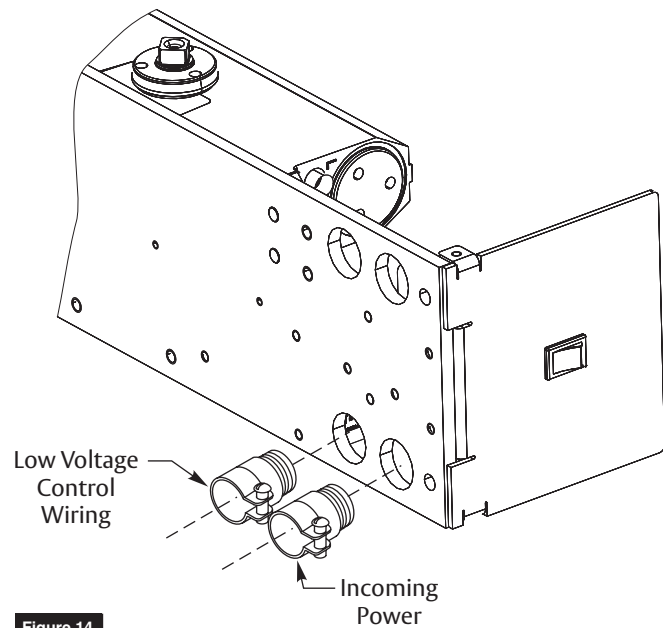

Figure 14
**Concealed Wiring (Figure 14)**